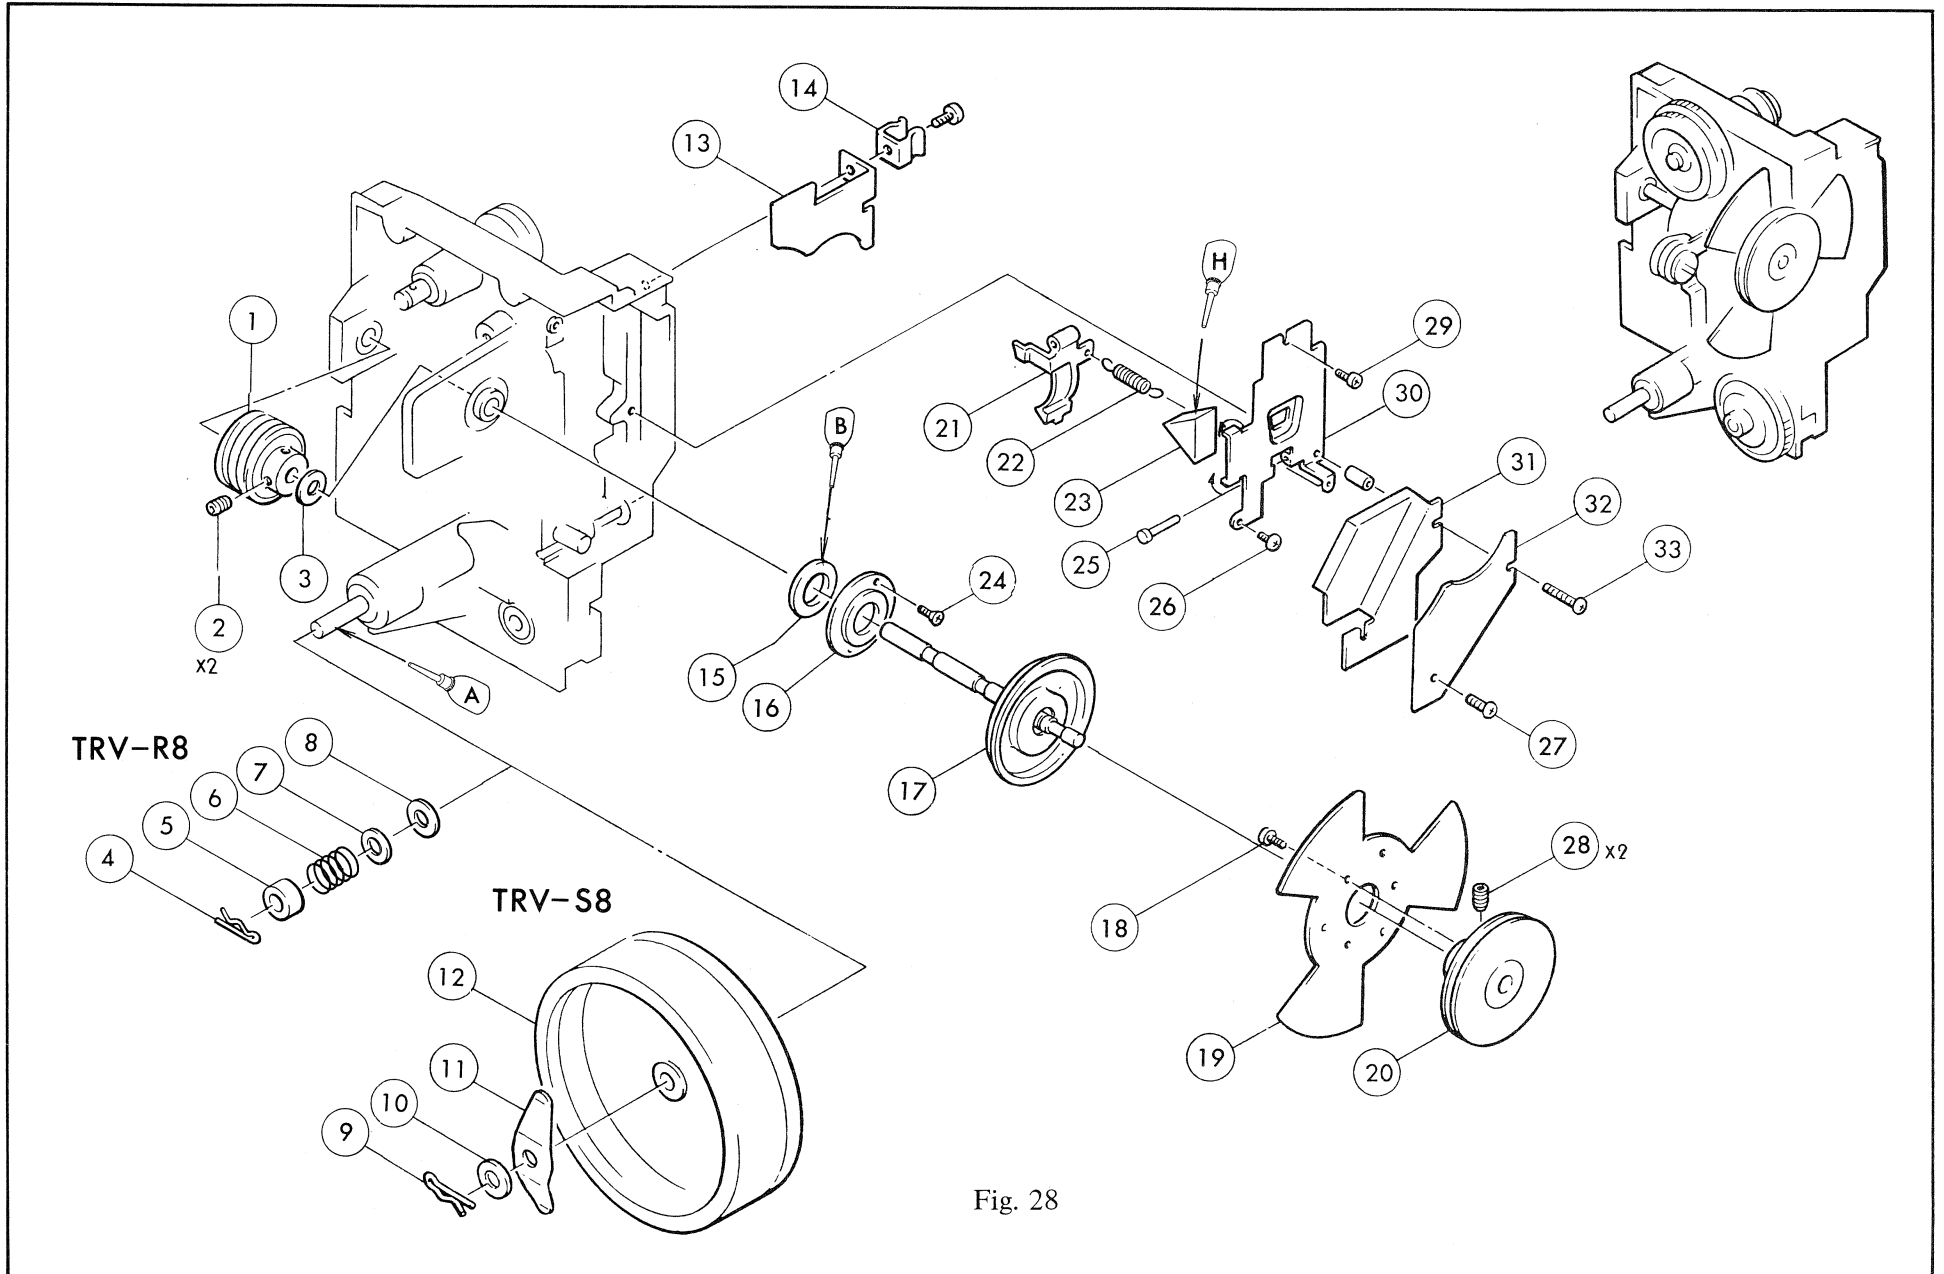

Fig. 28
### III – 2 – 14 Shutter Assy and Flywheel (See Fig. 28)
1. Take out ⑨ to remove ⑩, ⑪ and ⑫. (Type S8 only)
2. Take out ④ to remove ⑤, ⑥, ⑦ and ⑧. (Type R8 only)
3. Unscrew 1 piece each of ⑳ and ㉓ to remove ㉒ and ㉑.
6. Unscrew 2 pieces of ② to remove ⑰ and ①.
7. See Fig. 28 for further disassembly.
3. When replacing ㉖, fold the claw of ㉖ at two places after adhering ㉙. (See Fig. 28) Further, flatten the end of ㉚ and apply ALUMI GREASE 1 to ㉚.
5. When installing ⑰, wipe off the oils in the surrounding, and apply THREE BOND 4 (G051) to the outer periphery (excluding the lubricating slot) before airtightening.
6. Apply VEEDOL 20-40 to ⑮.
7. When installing ⑫, apply ALVANIA GREASE 2 to the sliding surface of fly wheel. Also, after installation make sure that the rotation is smooth without play (slackening).